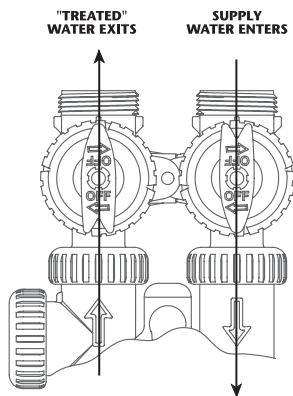

Figure 1
1. **Normal Operation Position:** The inlet and outlet handles point in the direction of flow indicated by the engraved arrows on the control valve. Water flows through the control valve for normal operation of a water softener or filter. During the regeneration cycle this position provides regeneration water to the unit, while also providing untreated water to the distribution system (**Fig. 1**).